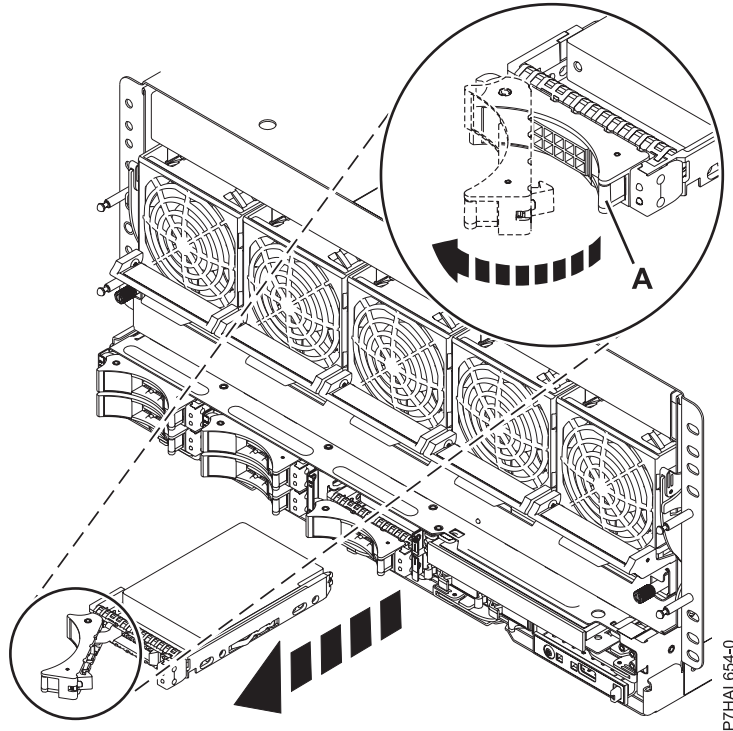

Figure 32. Removing a disk drive from the system
1. On the system, unlock the drive handle by squeezing it and pulling it out toward you, as shown in Figure 32 on page 49.